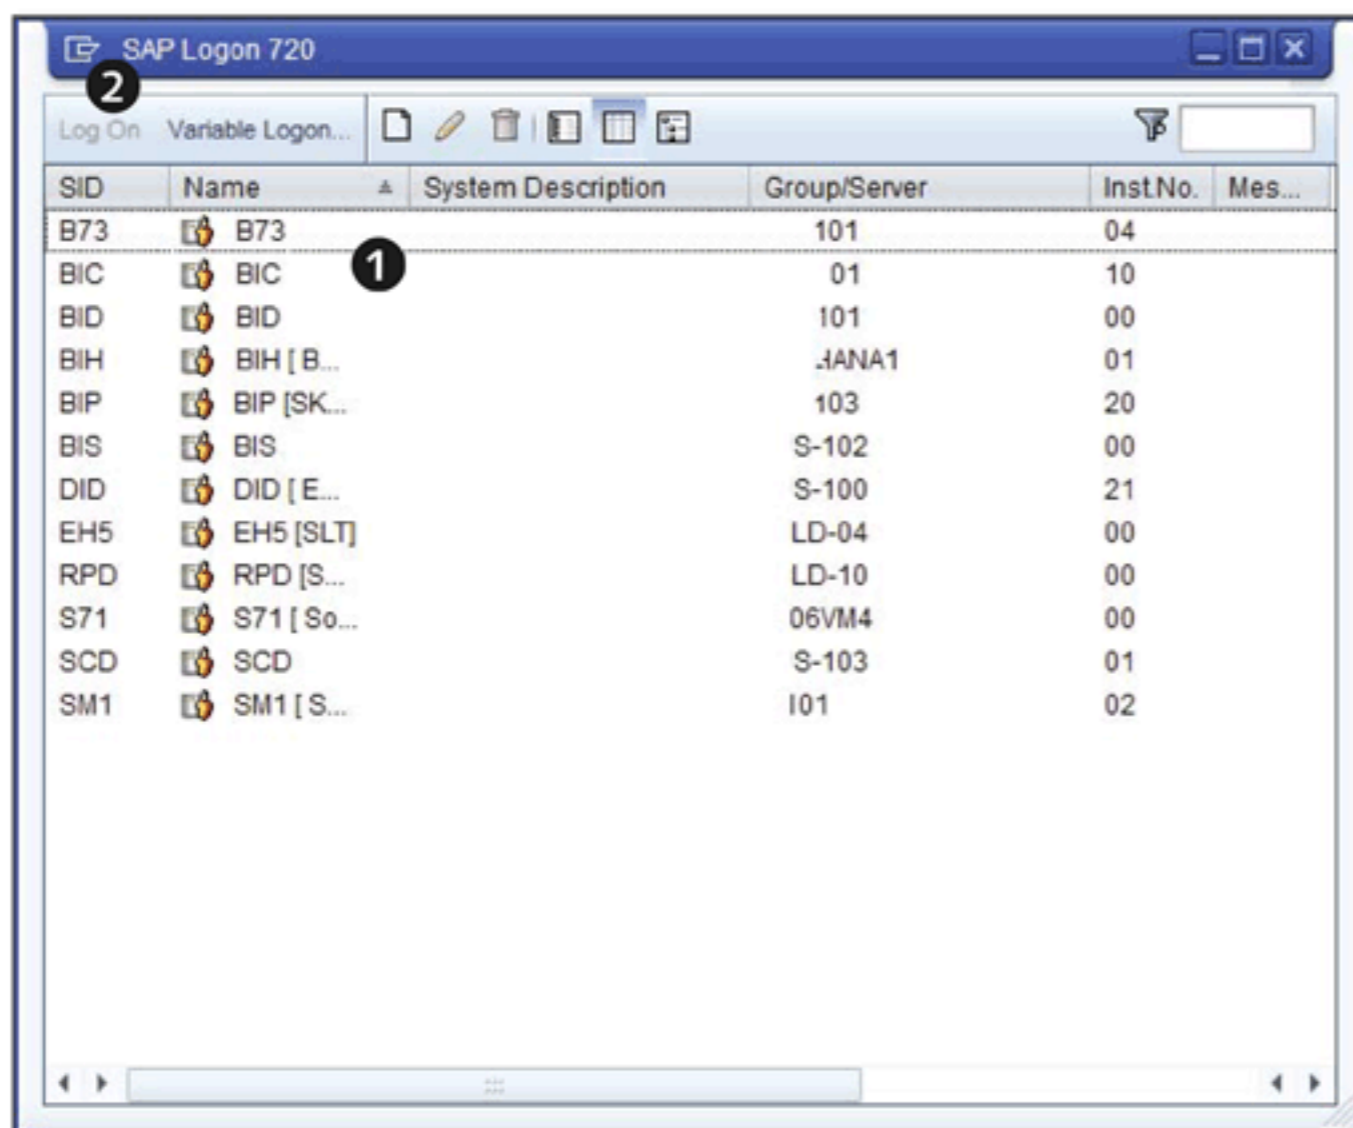
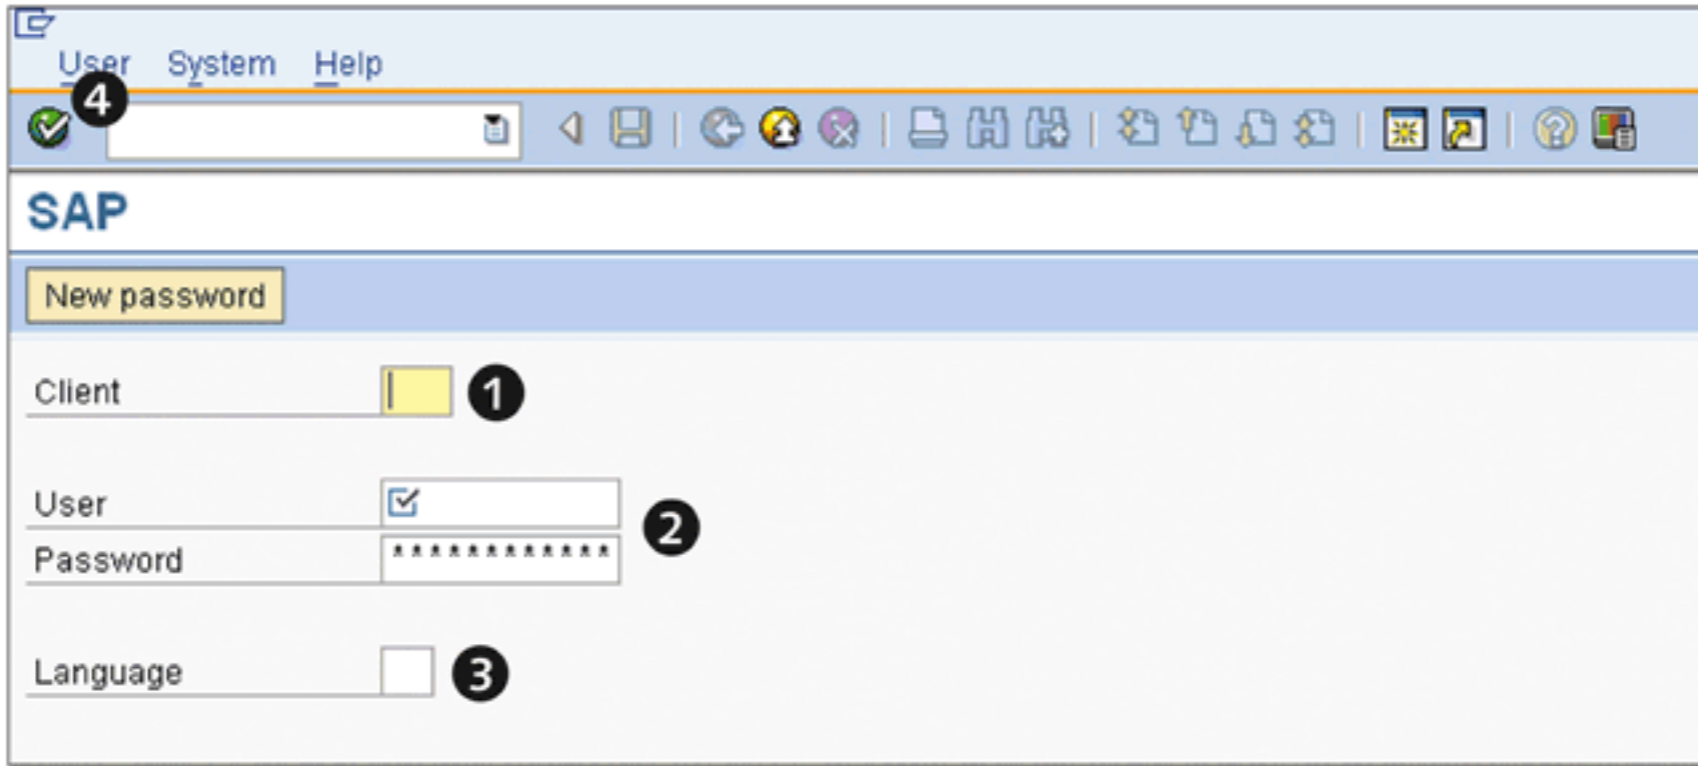
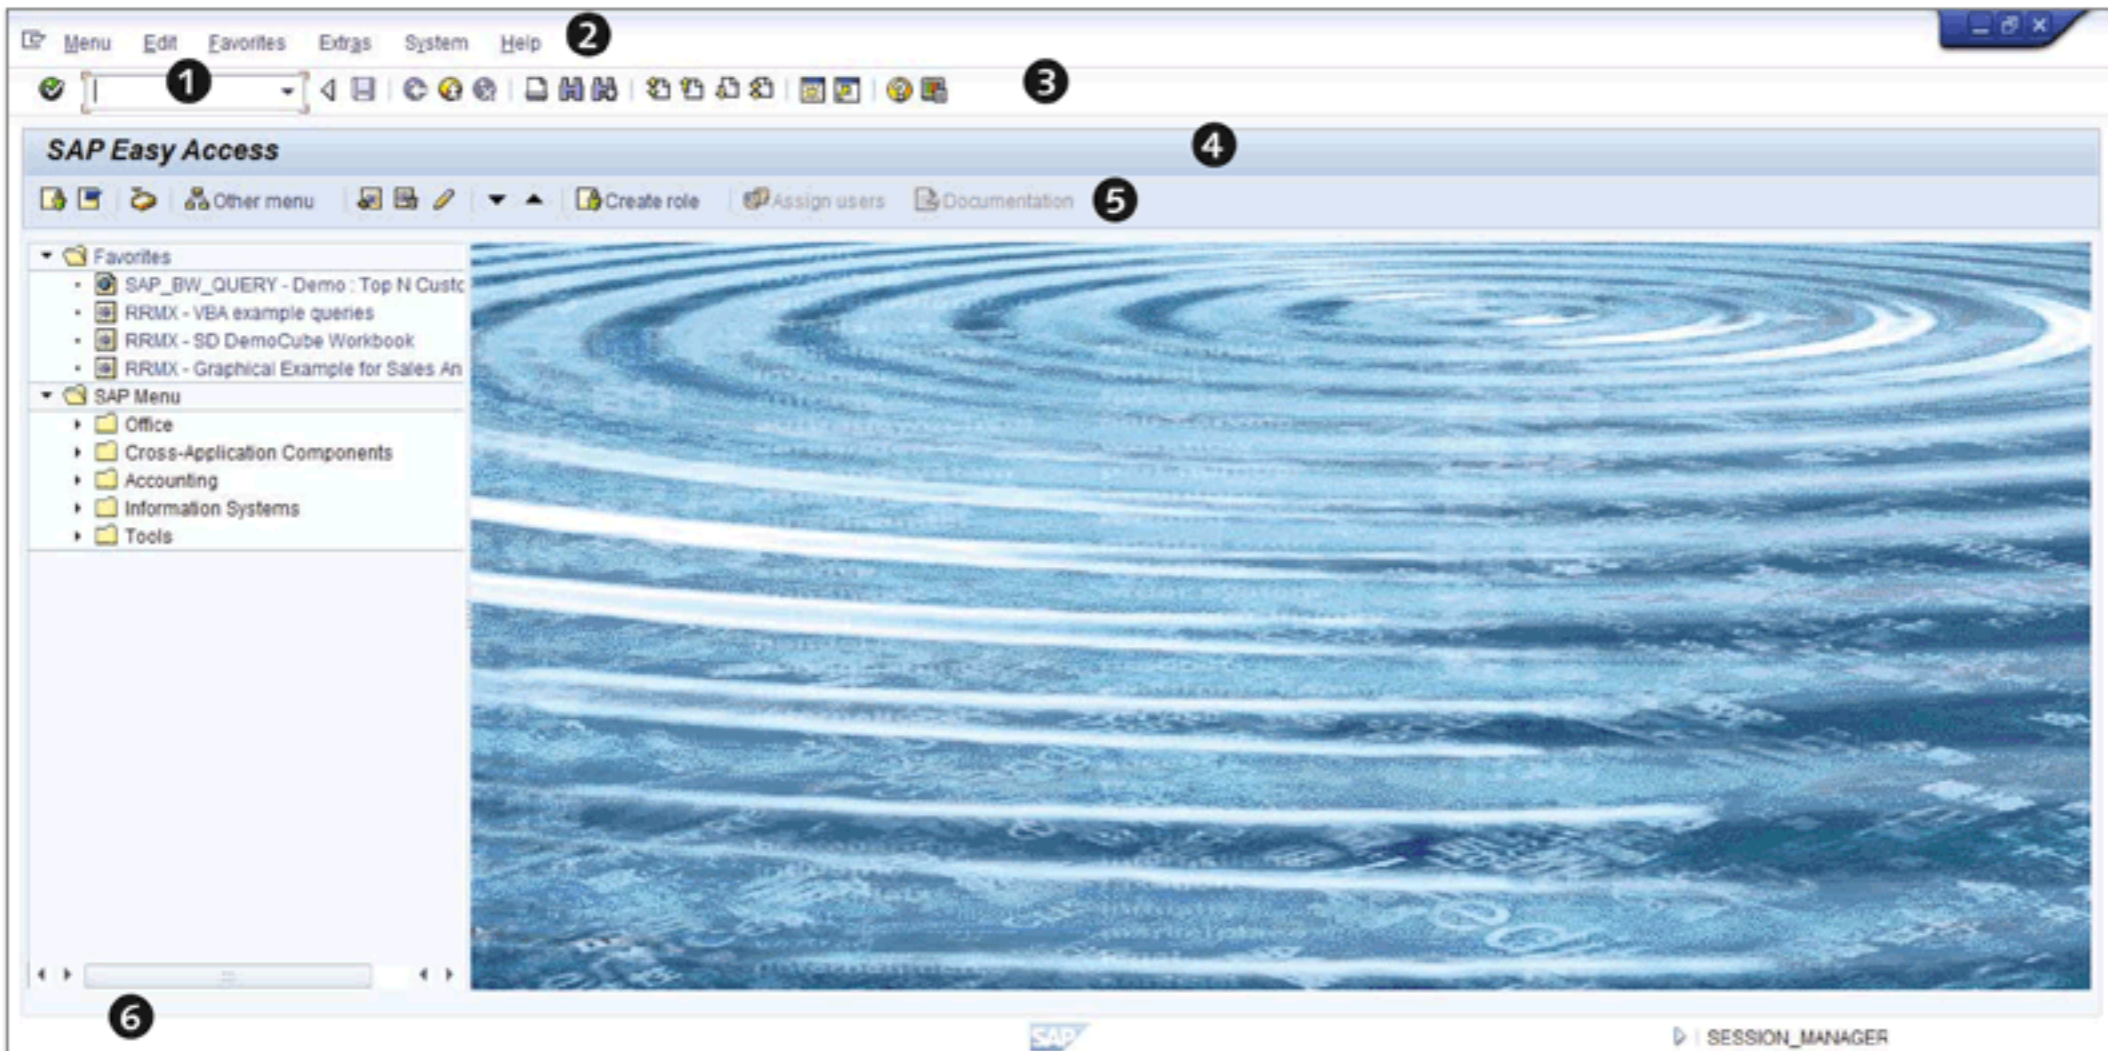

Figure 2.6 SAP Logon Pad
Figure 2.7 SAP Logon Screen
Figure 2.8 SAP Easy Access Screen
1. From the Windows START menu, follow the path PROGRAMS • SAP FRONT END • SAP LOGON. You see the SAP logon pad, as shown in Figure 2.6.
2. The SAP logon pad displays the SAP systems configured for access on your Windows system; select the SAP NetWeaver BW system you want to access (1 of Figure 2.6).
- Click on the LOG ON button (2 of Figure 2.6), and you'll get the SAP LOGON screen, as shown in Figure 2.7.
- Enter the values for the CLIENT field (1 of Figure 2.7), your user ID and password (2), and language (3). All of these values are required and should be available from the administrator of your SAP NetWeaver BW system. Press , or click on the CONTINUE icon (4) to log on. A successful logon brings you to Figure 2.8.
You can start applications directly by entering the specific transaction code in the `COMMAND` field (❶ of Figure 2.8). Type the code, and press .
Different menu functions are available in the menu bar of the SAP screen (❷ of Figure 2.8). The menus shown can change depending on the application you're using. These menus may also contain cascading menus.